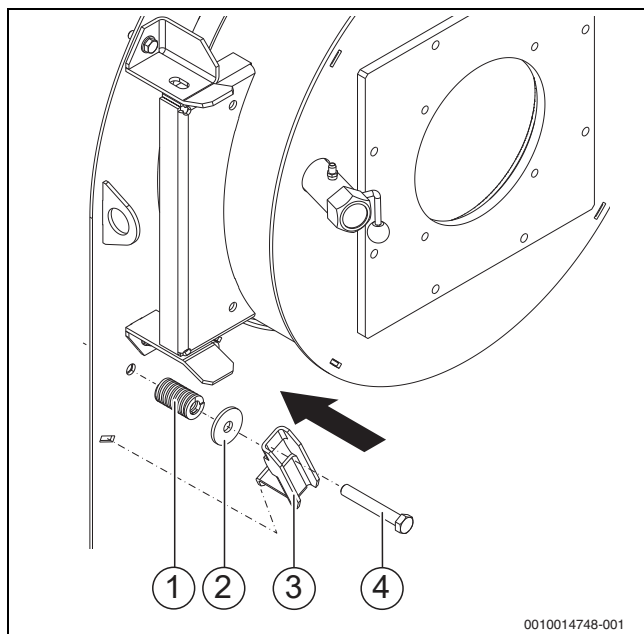

Fig. 15 Assembly
- ▶ Unhook the rocker arm (→ Figure 15, [3], page 21).